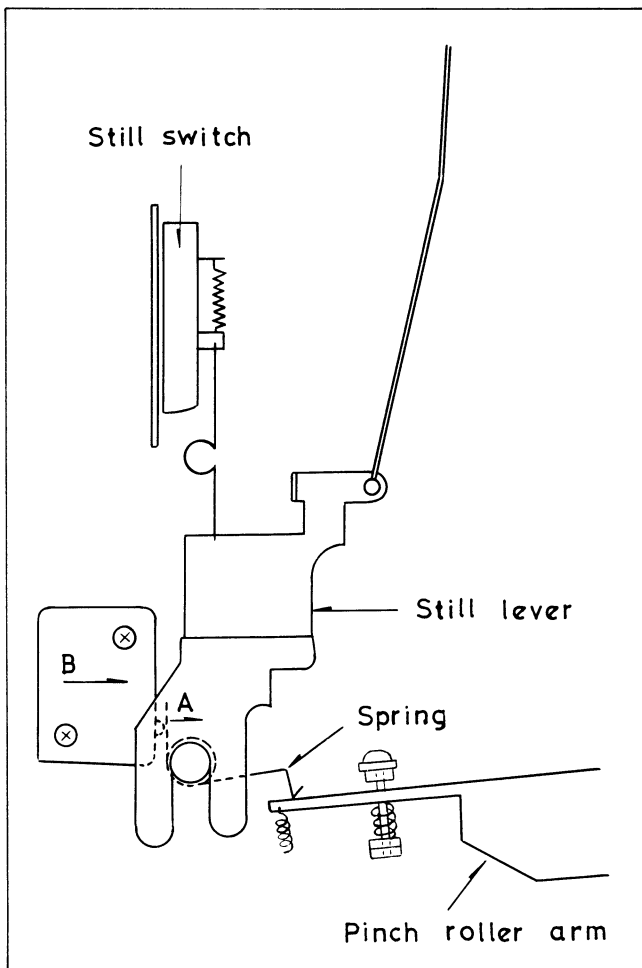

Fig. 6-11.
1. Refer to Fig. 6-11. Make sure that the spring fully actuates the microswitch when setting the VTR to PLAY mode.
2. While keeping at PLAY mode, press the spring slowly in the direction of arrow (A) by use of a screwdriver blade until the switch is turned off. Ascertain both visually and aurally that the spring returns to turn on the switch when removing the screwdriver.